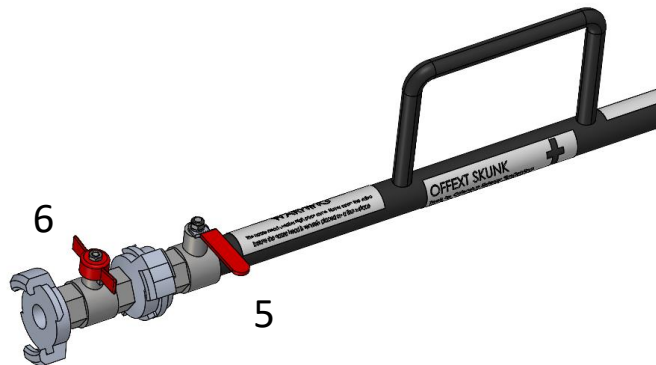

Figure 4. Cut off valve unit (6) attached to the Operating valve (5).
- Make sure that the **operating valve is closed (See Figure 4)**, before attaching the hose and pressurizing the product.
- Please, make sure that the Operating valve (5) is closed when attaching the Cut off valve. Figure 4 shows the operating valve in a closed position.
- Make sure that both valves (Figure 4 valves 5 and 6) are **closed before pressurising the hose.**